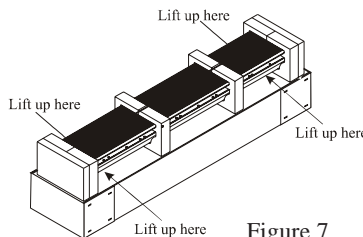

Figure 7
15. Lift up on the rear of the Column Loudspeaker, near the foam packing material at both ends. Place the entire assembly (Column, Loudspeaker Grille and foam packing material) next to the bottom shipping carton on a flat surface. Refer to figure 7.